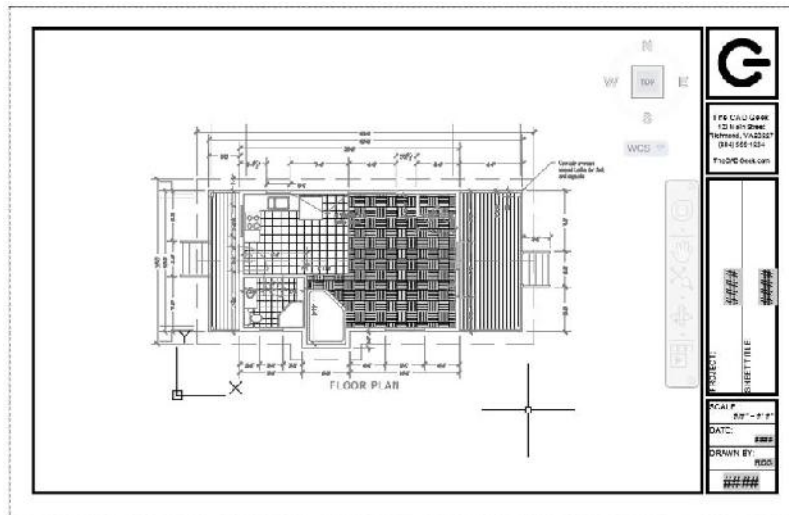

FIGURE 14.21: Approximating the composition of the viewport for sheet A-101
11. Double-click anywhere inside the viewport boundary you just created, and use the Zoom tool to compose your viewport as in Figure 14.21.